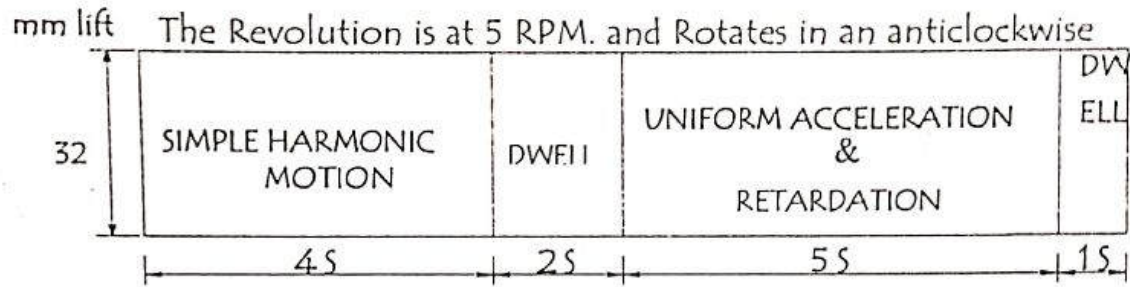

FIG. 3
3. Figure 3 below shows a graph of motion of a plate cam designed to operate a roller follower of diameter 20mm which is offset 24mm to the right of the cam shaft center line and the shortest distance from the cam shaft center to the roller center is 32mm.